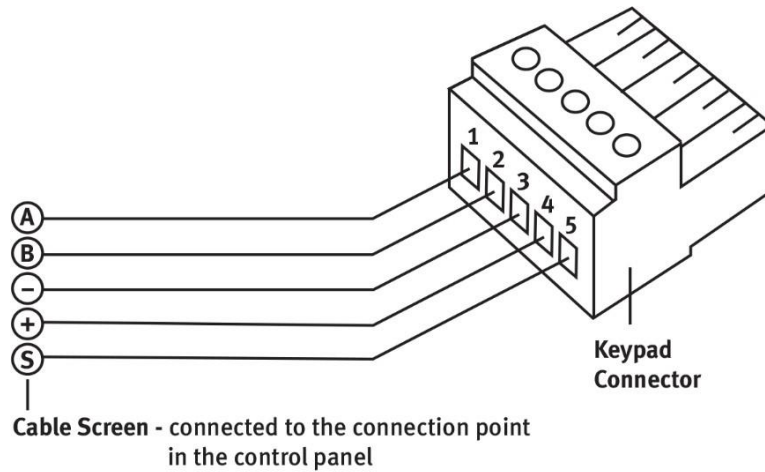

Figure 14 – Keypad Connector
- ▶ Drill 4 holes for the mounting plugs. The hole depth must be 20–25 mm. For the location of the holes, see Figure 14.